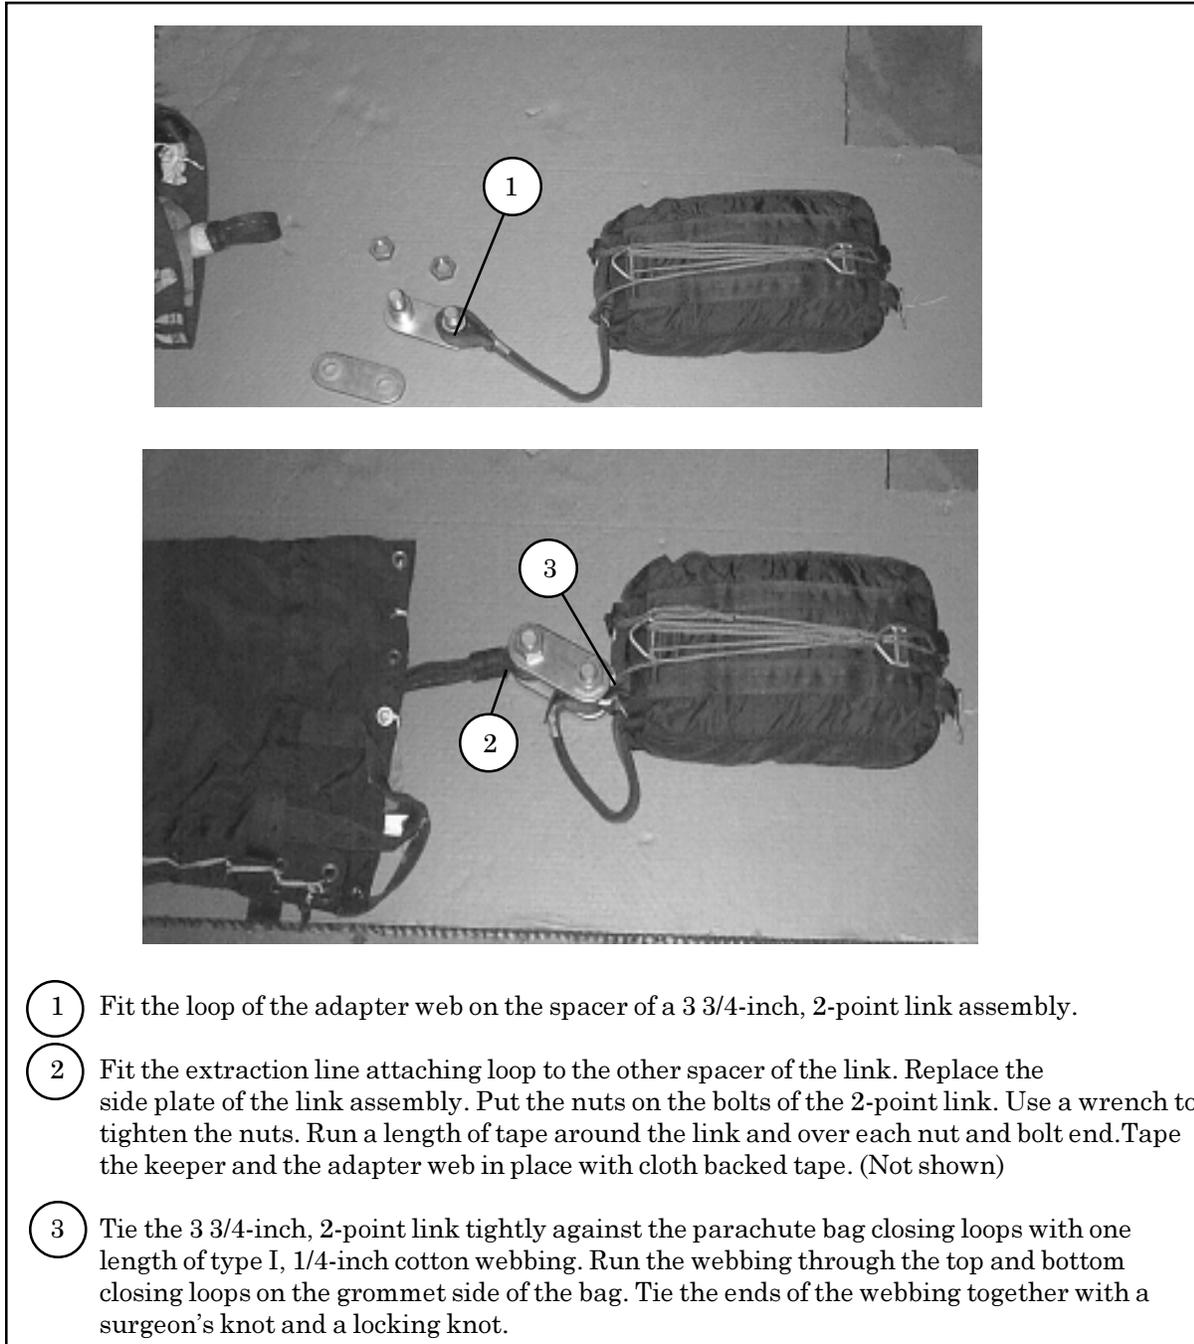

Figure 3-66. Extraction Line Attached to 15-Foot Extraction Parachute
(1) Attach a 60-foot (1-loop), type XXVI nylon webbing extraction line as shown in Figure 3-66.
(2) Attach the adapter web of the 15-foot extraction parachute as shown in Figure 3-66.
a. One 15-Foot Cargo Extraction Parachute. Attach a continuous 160-foot (1-loop), type XXVI nylon extraction line to the parachute by adapting procedures shown in Figure 3-66.